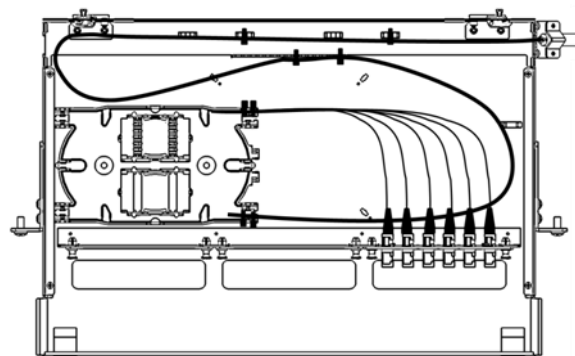

Fig. 9
1. Secure the cable to the cable clamp and route the buffer tube to the tray (Fig. 9).